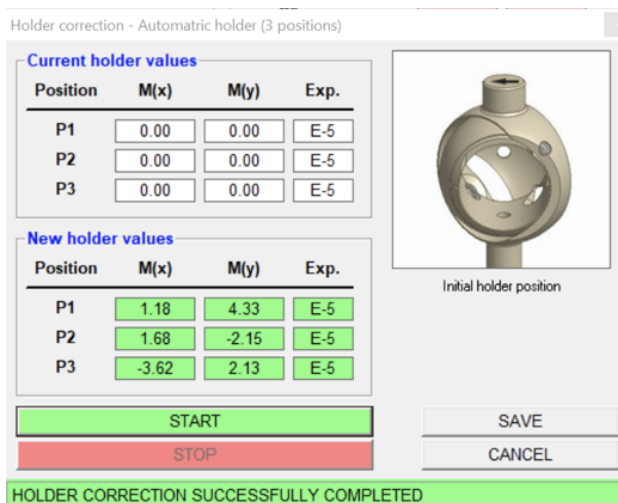

Figure 6: Holder Correction dialogue box after successful measurement.
1. Click **Execute > Holder Correction**. The Holder Correction dialogue box will open (Figure 6).